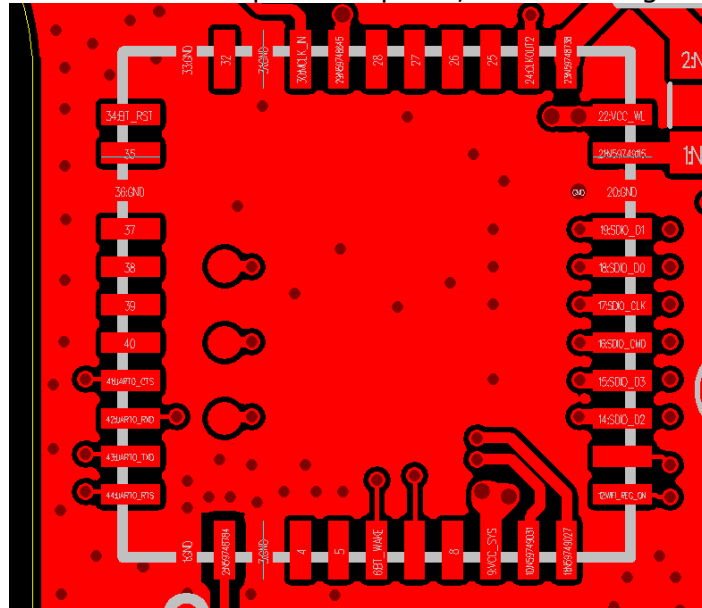

Figure 23-11
- Keep the complete GND reference plane on the first layer under the module, and other signal traces cannot pass the plane, shown as Figure 23-11.